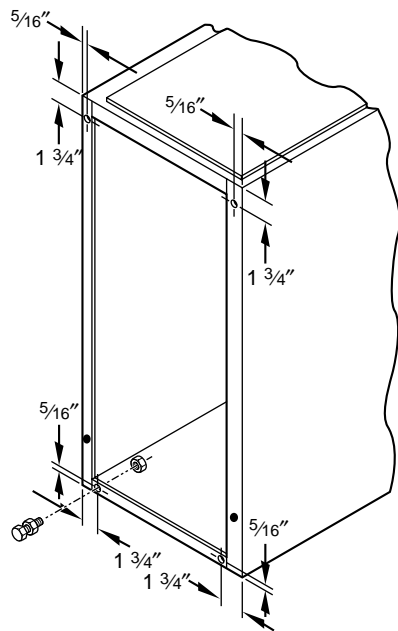

Fig. 10—Leveling Legs
In upflow position with side return inlet(s), leveling legs may be used. (See Fig. 10.) Install field-supplied, 5/16 X 1 1/2 in. (max) corrosion-resistant machine bolts, washers and nuts.
1. Position furnace on its back. Locate and drill a hole in each bottom corner of furnace. (See Fig. 10.)